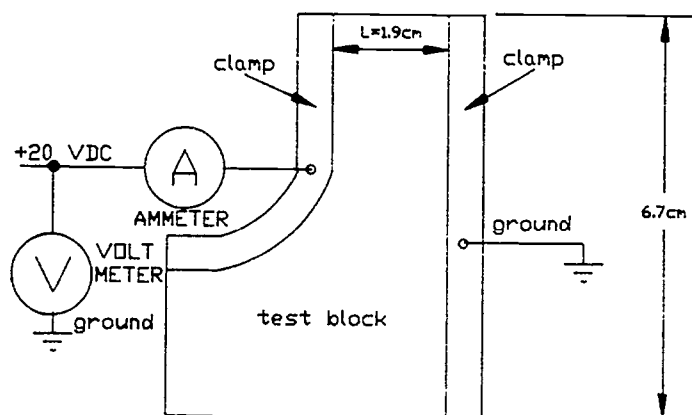

Figure 1
1. Hook the power supply to the test block as shown in Figure 1 below: